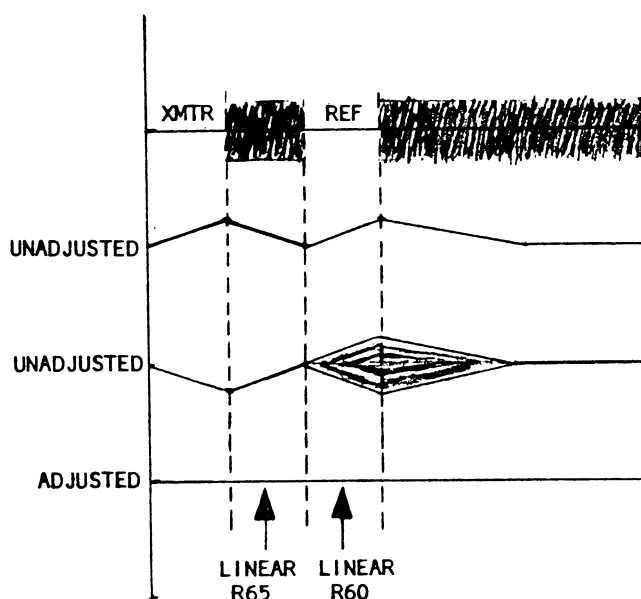

Figure 3-10 Co-linear Pulse and Noise Line
37. Provide Pulse Generator Signal at TEST VIDEO Connector (21).
38. Connect calibrating RF Pulse Generator to TEST RF Connector (20).
40. Apply 3  $\mu$ S pulse. Adjust reference sample pulse period to be co-linear with noise line (see Figure 3-10), using R-60.